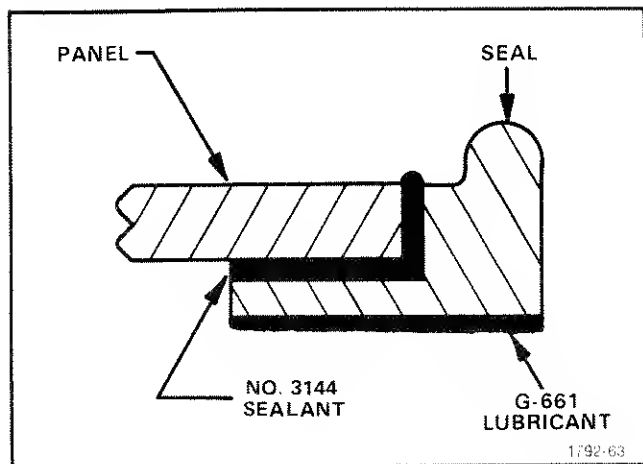

Fig. 5-9. Detail of Plug-In Compartment seal.
9. Bonding of Plug-in Compartment seal to Front Panel (see Fig. 5-9)